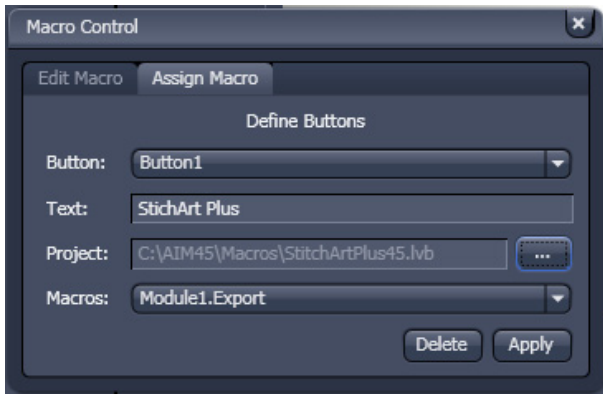

Fig. 5-8 Macro Control window – Assign Macro
- Press the **Assign Macro** tab to switch to the **Assign Macro** panel (see Fig. 5-8).